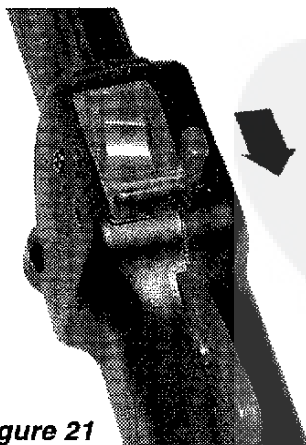

Figure 21
2. Slide the ignition switch to the “I” (START) position. See Figure 21.